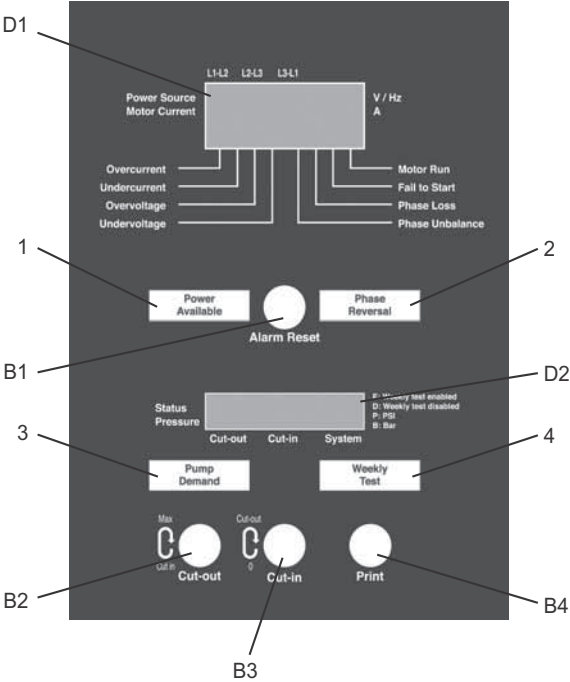

Fig. 4 Control panel
The design of the control panel is shown in fig. 4. It consists of two displays, four indicator lights and four buttons. Display D1 shows the status of the power supply. Display D2 shows the status of pressure data and allows for setting of pressure values. See section 5.2 *Settings via display*.
[Alarm Reset] B1 (fig. 4)
This button is used to reset fault indications. When the button is pressed for more than five seconds, display D1 (fig. 4) shows input/output status. When pressed for more than ten seconds, a ten second phase-reversal simulation is carried out.
[Cut-out] B2 (fig. 4)
[Cut-in] B3 (fig. 4)
[Print] B4 (fig. 4)
The display can be switched to status mode by pressing [Alarm Reset] button B1 (fig. 4) for 5 seconds.
The display mode can be switched to phase-reversal simulation by pressing [Alarm Reset] button B1 (fig. 4) for more than 10 seconds. See fig. 8.
During this simulation, indicator light "Phase Reversal" (fig. 4, pos. 2) is on, and alarm relay "Ph. Rev." is activated.